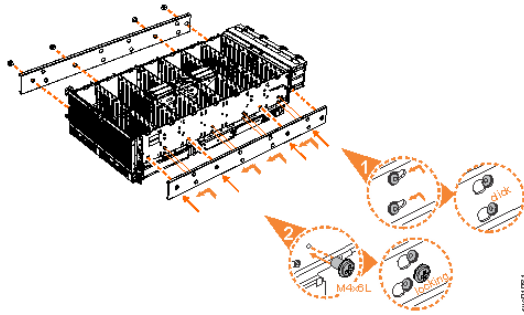

Figure 47. Attaching the inner rail section to the enclosure
5. Install the inner section of the rail onto each side of the expansion enclosure, as shown in Figure 47 on page 87.